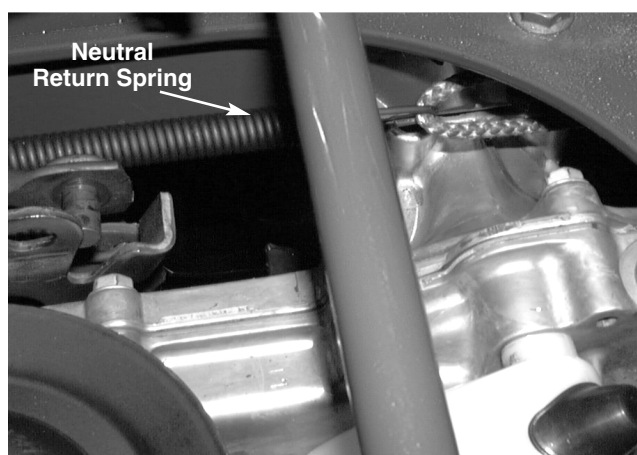

FIGURE 9.
16. Remove the self tapping screw securing the ground wire to the neutral return link. See figure 9.
NOTE: An assistant may be necessary during reinstallation to guide the extension spring back onto the frame bolt. See figure 9 and 10.